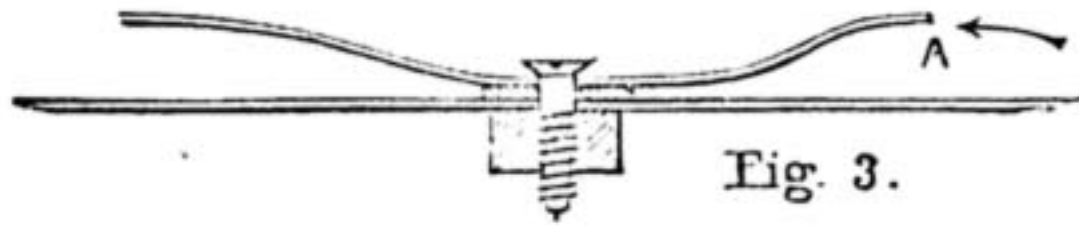

Fig. 3.
**Time Alarm Fitment.** Fig. 1.—Figured Piece. Fig. 2.—B, Projecting Piece. Fig. 3.—A, End which will contact with projecting Piece. Fig. 4.—Position of Fitment.
brass about 1/4 in. wide and 2 1/2 in. long in the shape of Fig. 3. This is very thin, and forms a weak spring. I made a hole in this, and fastened it to frame of clock works, with a screw through the hole that the winding up spindle came from, merely putting a small screw through and a small piece of wood at the back to act as a nut; also a leather washer between the spring and frame to insulate it from frame. Fig. 4 shows the position it is placed in. The dotted lines show how the small figured centre piece will contact. One wire leads from the other and from this spring, and the other wire from the frame the clock works. Of course you want a switch with this, but I daresay you can see the idea, and fellow-readers may be glad to know that it works well. When I set my clock I turn the hands to the time I wish it to go off, then gently turn the figured piece round until the bell starts ringing; then I put the clock right time. It is simple enough if you saw it, and it only took me a matter of two hours to fit it up. If any one cares to see it, I should be glad to show it them at 38, Spencer Street."
As A. S. H. L. does not give size of lathe, this is not to scale. Fig. 1, face of headstock, showing two screw holes to fix plate. Fig. 2, plate to fix on headstock elevation. Fig. 3, section of plate; the face screws hold plate on headstock and edge screws adjust amount of eccentricity. Fig. 4, the chuck (back); the rectangular portion, D, slides accurately between guides on C, which is fitted to mandrel nose as usual. The stops, A and B, must be exactly the diameter of Fig. 2 apart. Fig. 5, edge view of same (references the same). Fig. 6, front of chuck having an exact copy of mandrel nose fixed in centre upon which ordinary chucks can be used. Fig. 8 is a sketch of the whole in position, showing how Fig. 2 fixes on headstock, and Fig. 5 is compelled to follow its eccentricity.—B. A. B.